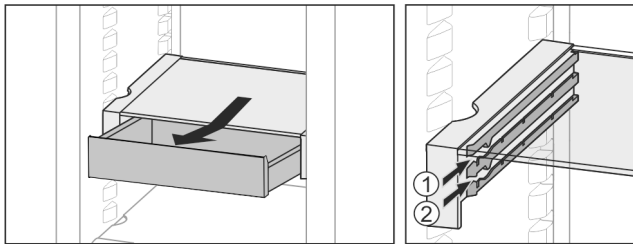

Fig. 23
- ▶ Slide back at the height you want *Fig. 23 (1)* or *Fig. 23 (2)*.